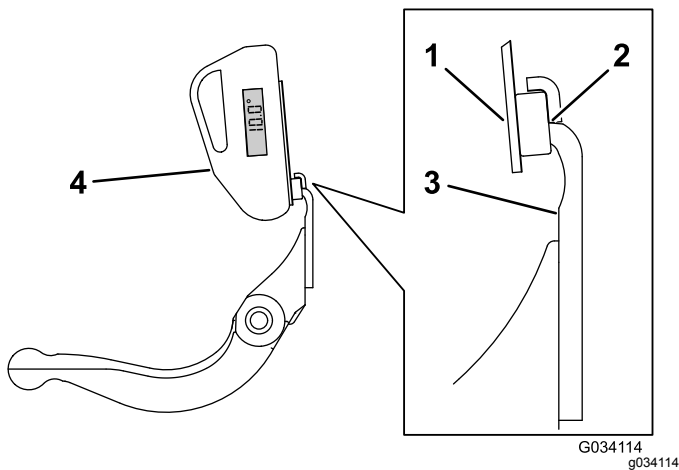

**Figure 27**
1. Place the angle indicator on the bottom side of the bedknife as shown in Figure 27.